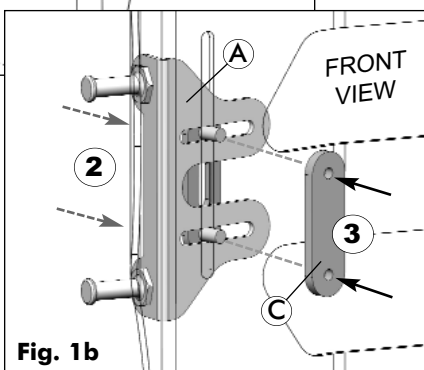

Fig. 1b
- From the rear of the back shell, install the 2 protruding screws from the mounting bracket through the vertical slot in the MX2 back shell (2); (Refer to **Fig. 1b**)
- To secure the mounting bracket to the Mx2 back shell, thread the screws into the nut plate (C) on the front (inside) of the back shell (3); (Refer to **Fig.1b**)
- 2 Install the remaining quick-release mounting bracket (A) onto the opposite side of the back shell (as per **Step 1** above).